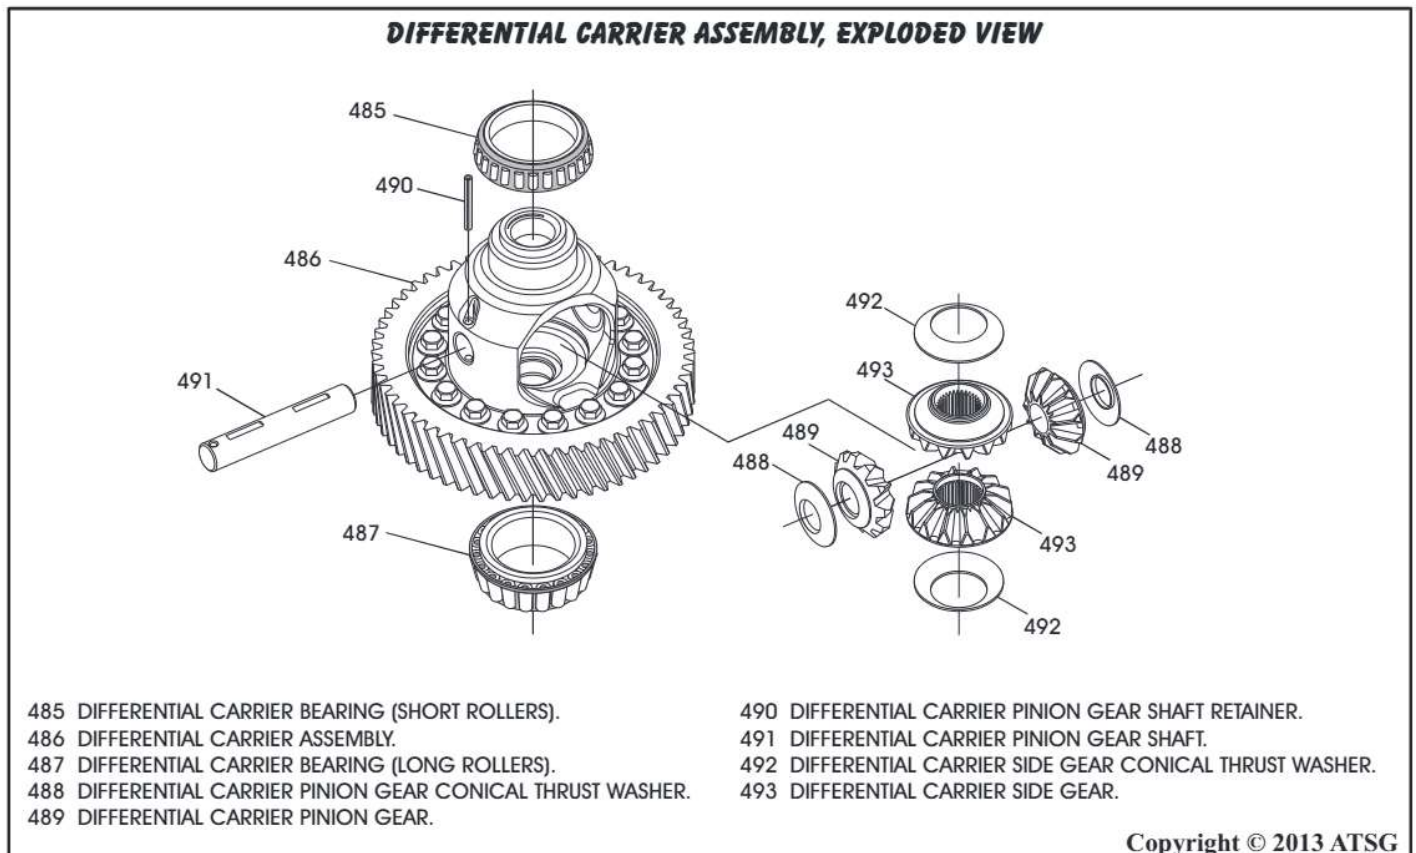

Figure 85
2. Disassemble the differential carrier assembly using Figure 85 as a guide.
4. Assemble the differential carrier assembly using Figure 85 as a guide.